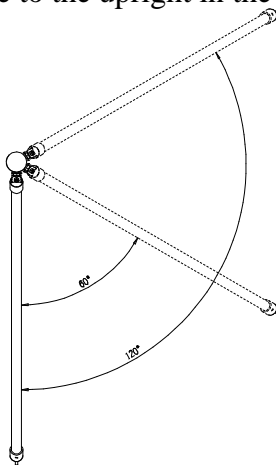
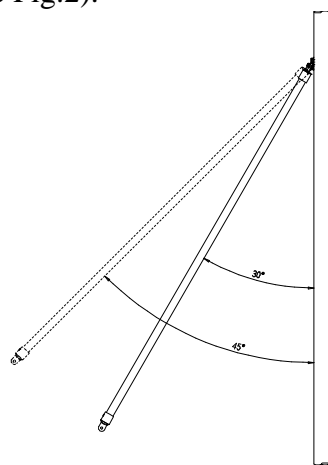

Figure 1
Figure 2
1. Check you have received: (see Fig.1)
When the location for the mounting pole has been established and the pole kit assembled the length of the stays must be determined. It is recommended that the angle of the stays between each other is in the range of 60 to 120° (see Fig.1) and the angle to the upright in the range of 30 to 45° (see Fig.2).